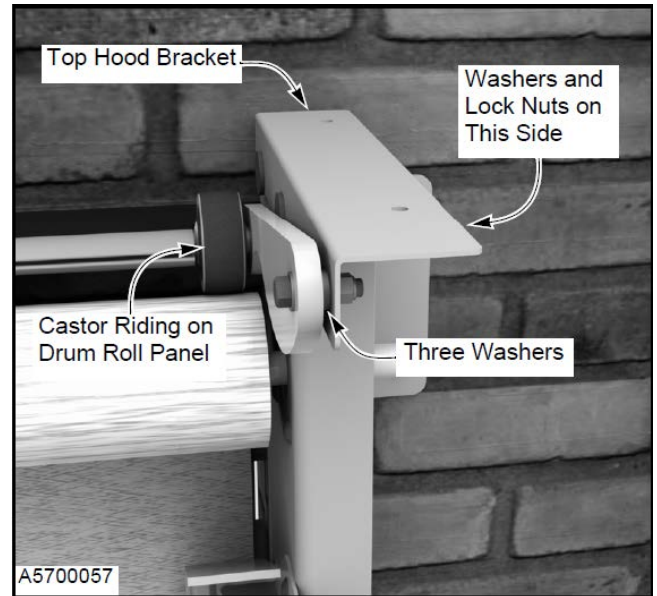

Figure 25
2. Install the top seal assembly to the top hood brackets using a  $\frac{3}{8}$ -16 x 1.50 hex head cap screw, five  $\frac{3}{8}$ -in. washers, and a  $\frac{3}{8}$ -in. lock nut at each end. Use three of the washers between the top hood bracket and lifting arm and one under each piece of hardware. (See Figure 25)